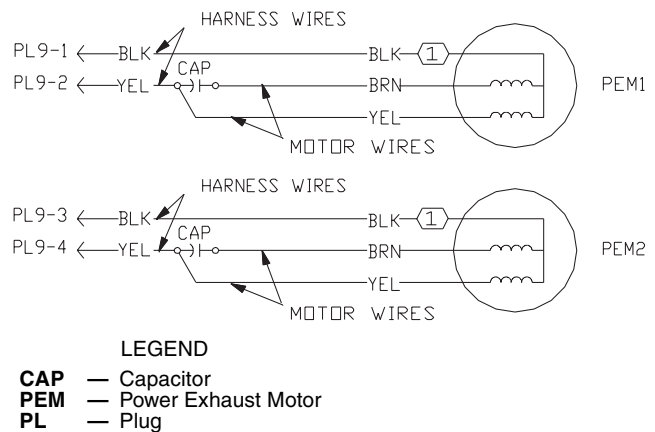

Fig. 3 — Power Exhaust Motor Wiring (48/50HG Units)
2. As shown in Fig. 3, the power exhaust motor is factory wired to terminal 1 (high speed). To change motor speed, move the black wire from terminal 1 to terminal 2 (medium speed) or terminal 3 (low speed). If high speed is desired, no wiring changes are required. The motor closest to the control box is PEM1. The motor furthest away from the control box is PEM2.